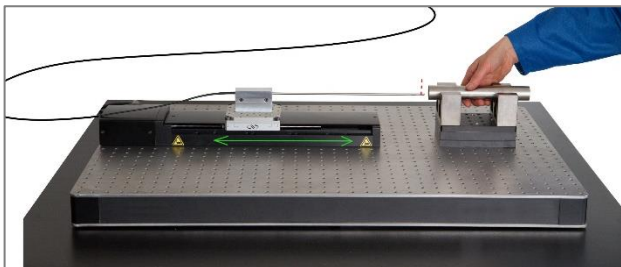

Figure 1: NOVACAM fiber-based optical profilometer probe, integrated with horizontal motion, automatically acquires a roughness profile inside a machined bore
- Measure even hard-to-reach surfaces, such as inside diameters of tubes & bores (Figures 1 & 2), slots, blade surfaces, bottoms of blind bores, etc.